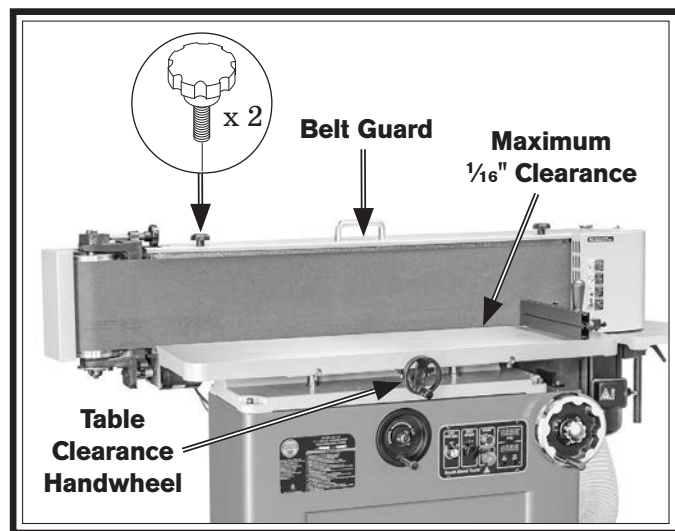

Figure 17. Belt guard lock knobs installed and location of table clearance handwheel.
8. Close belt guard and secure with (2) M10-1.5 x 16 knob bolts, as shown in **Figure 17**.
- If clearance is *equal to or less than* $\frac{1}{16}$ " (see **Figure 17**), and table is not contacting sanding belt, no further adjustment is necessary. Proceed to **Dust Collection**.
10. Turn table clearance handwheel (see **Figure 17**) until table is within $\frac{1}{16}$ " of sanding belt, but not touching sanding belt.